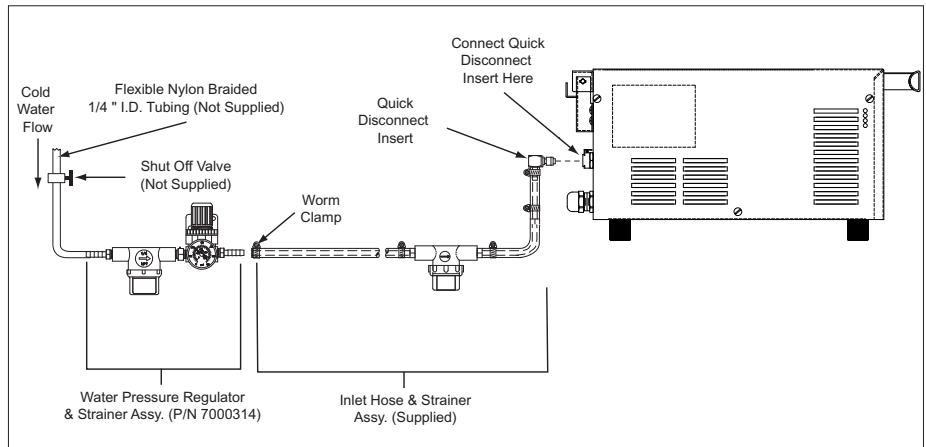

Figure 1. Connecting Water Supply to DFW/DFWT/DFWF-200/250
The DFW/DFWT/DFWF-200/250 models require a direct cold water hookup. A water inlet hose and strainer assembly (Figure 1) is supplied.
4. Over a bucket, press and hold the white plastic tip on the Quick Disconnect Insert (Figure 1) until a good, steady water flow is noted (this will purge all air out of the line).
6. Push the Quick Disconnect Insert into the fitting at the rear of the unit until it clicks into place (Figure 1).